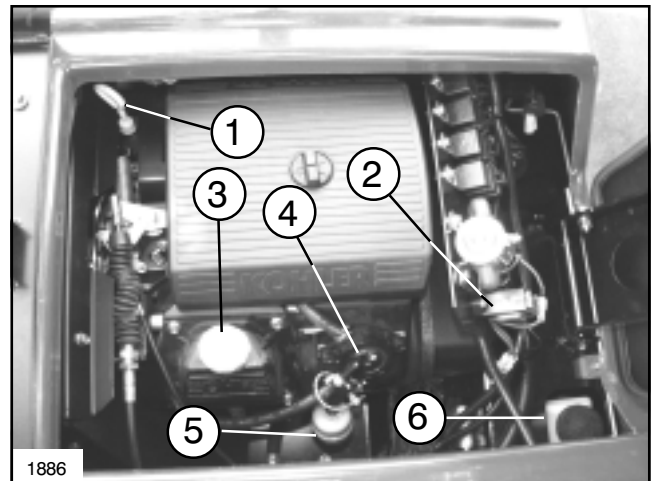

FIG. 32
There is one (1) 30 amp and one (1) 10 amp fuse in the vehicle's electrical system. The fuse box is located under the operators seat. (See FIG. 32)